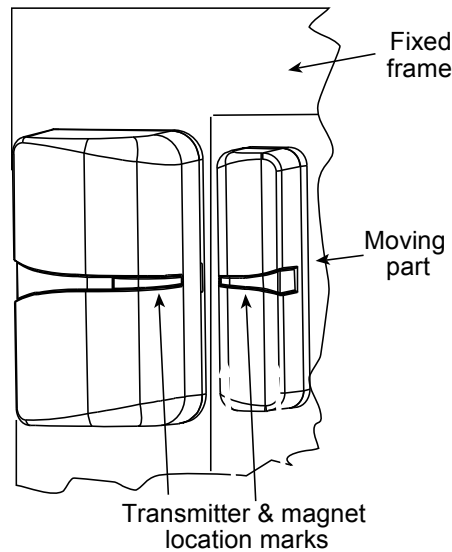

Fig. 1 – MCT-320 SMA
**NOTE:** It is highly recommended to attach the transmitter to the top of the door/window on the fixed frame and the magnet to the movable part (door or window). Make sure that the magnet is located not more than 6 mm (0.25 in.) from the transmitter's marked side. The transmitter should be mounted on the fixed surface and the magnet on the moving surface (see Figure 1).